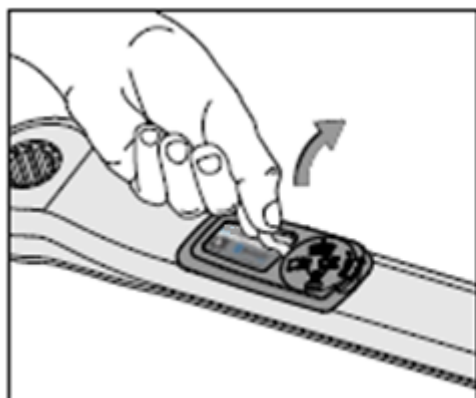

FIG 1
2. Referencing **FIG 1** and **2**; rotate the battery cover in the counter clockwise direction to release the cover.